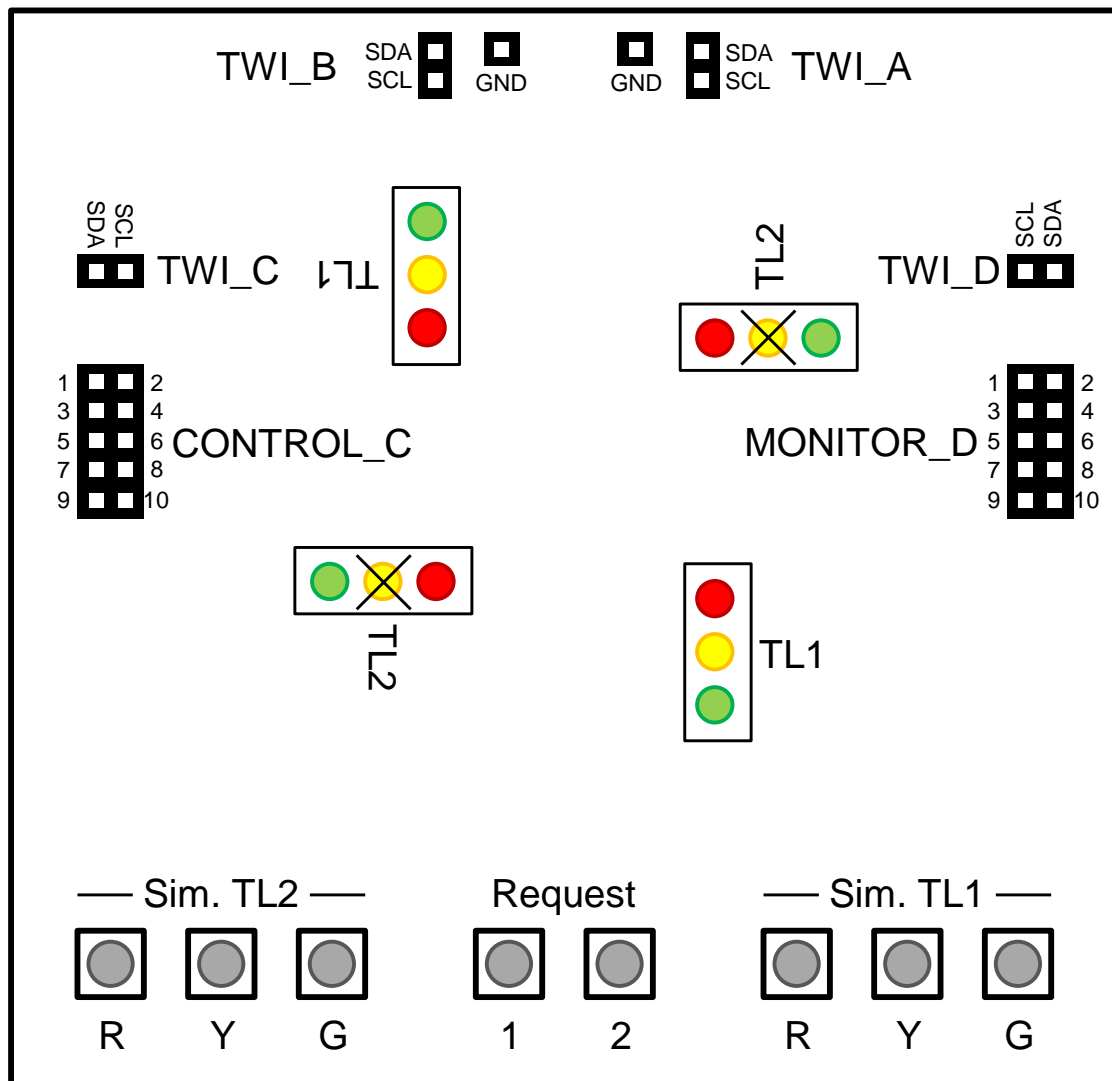

Figure 4: Traffic Light Circuit Board; see Tables 1 and 2 on Page 5 for Pinout of the CONTROL_C and MONITOR_D Headers.
- Reserve port B for sending the output signal to the traffic light and for retrieving requests. Table 1 shows the pin assignment, which corresponds to the `CONTROL_C` header on the traffic light circuit (compare Figure 4 on page 8).
- Reserve port B for sensing the state of the two traffic lights. Table 2 shows the pin assignment, which corresponds to the `MONITOR_D` header on the traffic light circuit (compare Figure 4 on page 8).